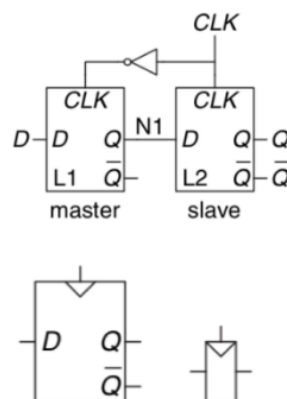

Figure 3: D Flip-Flop
3. **D Flip-Flop (figure 3):** Two back-to-back D latches controlled by complementary clocks. When CLK = 0, the master latch is transparent and the slave is opaque, the value at D propagates through to N1. When CLK = 1, the master goes opaque and the slave becomes transparent, the value at N1 propagates through to Q, but N1 is cut off from D. *D flip-flop copies D to Q on the rising edge of the clock, and remembers its state at all other times.*